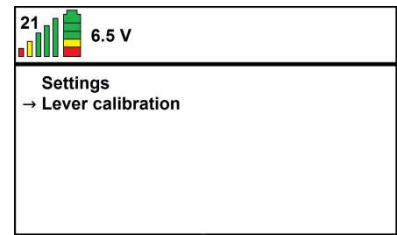

Figure: 17
- Switch on the remote control and activate the remote control menu by pressing the ✓ button (see figure 17).
- Press the ▼ button to move the arrow in the display until it points to 'Lever calibration' (see figure 17).